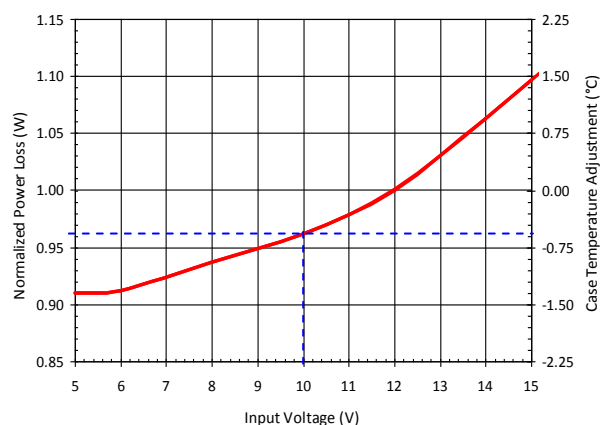
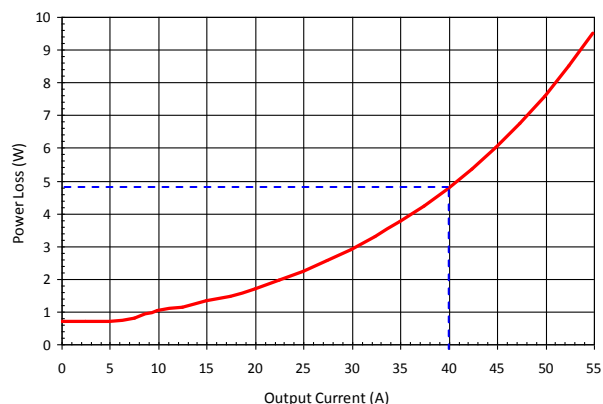
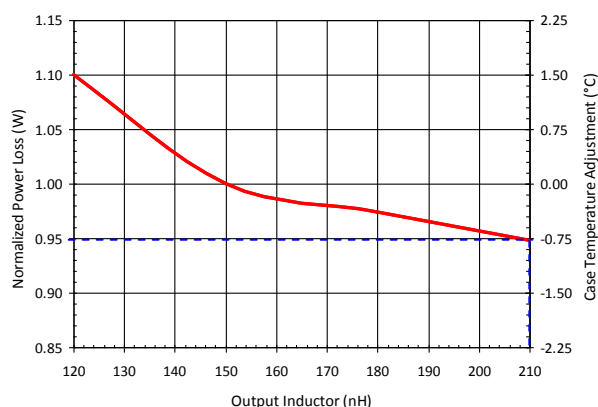

Figure 10: Normalized Power Loss vs. Input Voltage
Figure 8: Typical IR3575 Power Loss
Figure 14: Power Loss vs. Output Inductor
If any of the application condition, i.e. input voltage, output voltage, switching frequency, VCC MOSFET driver voltage or inductance, is different from those of Figure 8, a set of normalized power loss curves should be used. Obtain the normalizing factors from Figure 10 to Figure 14 for the new application conditions; multiply these factors by the power loss obtained from Figure 8 for the required load current.
- 1) Determine the power loss at 40A under the default test conditions of  $V_{IN}=12V$ ,  $V_{OUT}=1.2V$ ,  $f_{SW} = 400kHz$ ,  $L=150nH$ ,  $VCC=7V$ ,  $T_{AMBIENT} = 25^{\circ}C$ , no heat sink, and no air flow. It is 4.8W from Figure 8.
- 2) Determine the input voltage normalizing factor with  $V_{IN}=10V$ , which is 0.96 based on the dashed lines in Figure 10.
- 6) Determine the inductance normalizing factor with  $L=210nH$ , which is 0.95 based on the dashed lines in Figure 14.
If any of the application condition, i.e. input voltage, output voltage, switching frequency, VCC MOSFET driver voltage, or inductance is different from those of Figure 9, a set of IR3575 case temperature adjustment curves should be used. Obtain the temperature deltas from Figure 10 to Figure 14 for the new application conditions; sum these deltas and then subtract from the IR3575 case temperature obtained from Figure 9 for the required load current.
- 13) Determine the case temperature with  $L=210nH$ , which is  $-0.8^{\circ}$  based on the dashed lines in Figure 14.